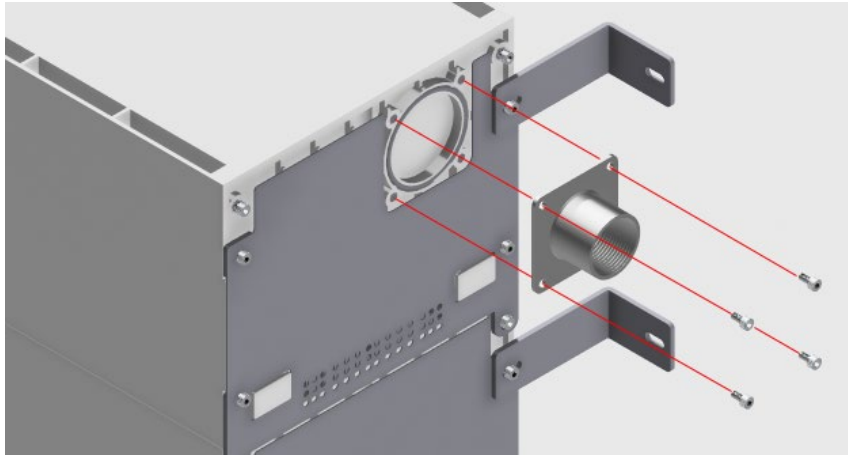
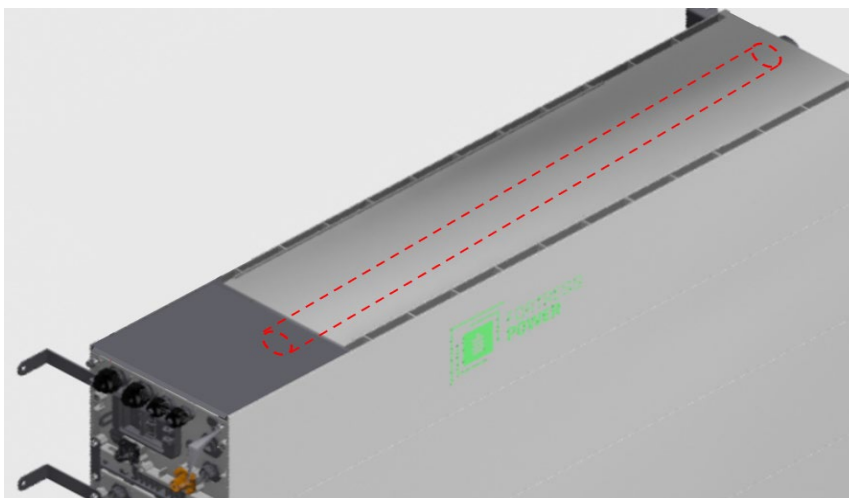

Figure 21: Right-side Battery Conduit Adapter
Figure 22: BMS Module Internal Conduit
2. If using the **right side**, drilling through the plastic is required to access the internal **conduit run (Figure 22)**. After drilling, install the **1-inch conduit adapter** included in the **BMS packaging**, as shown in **Figure 21**.